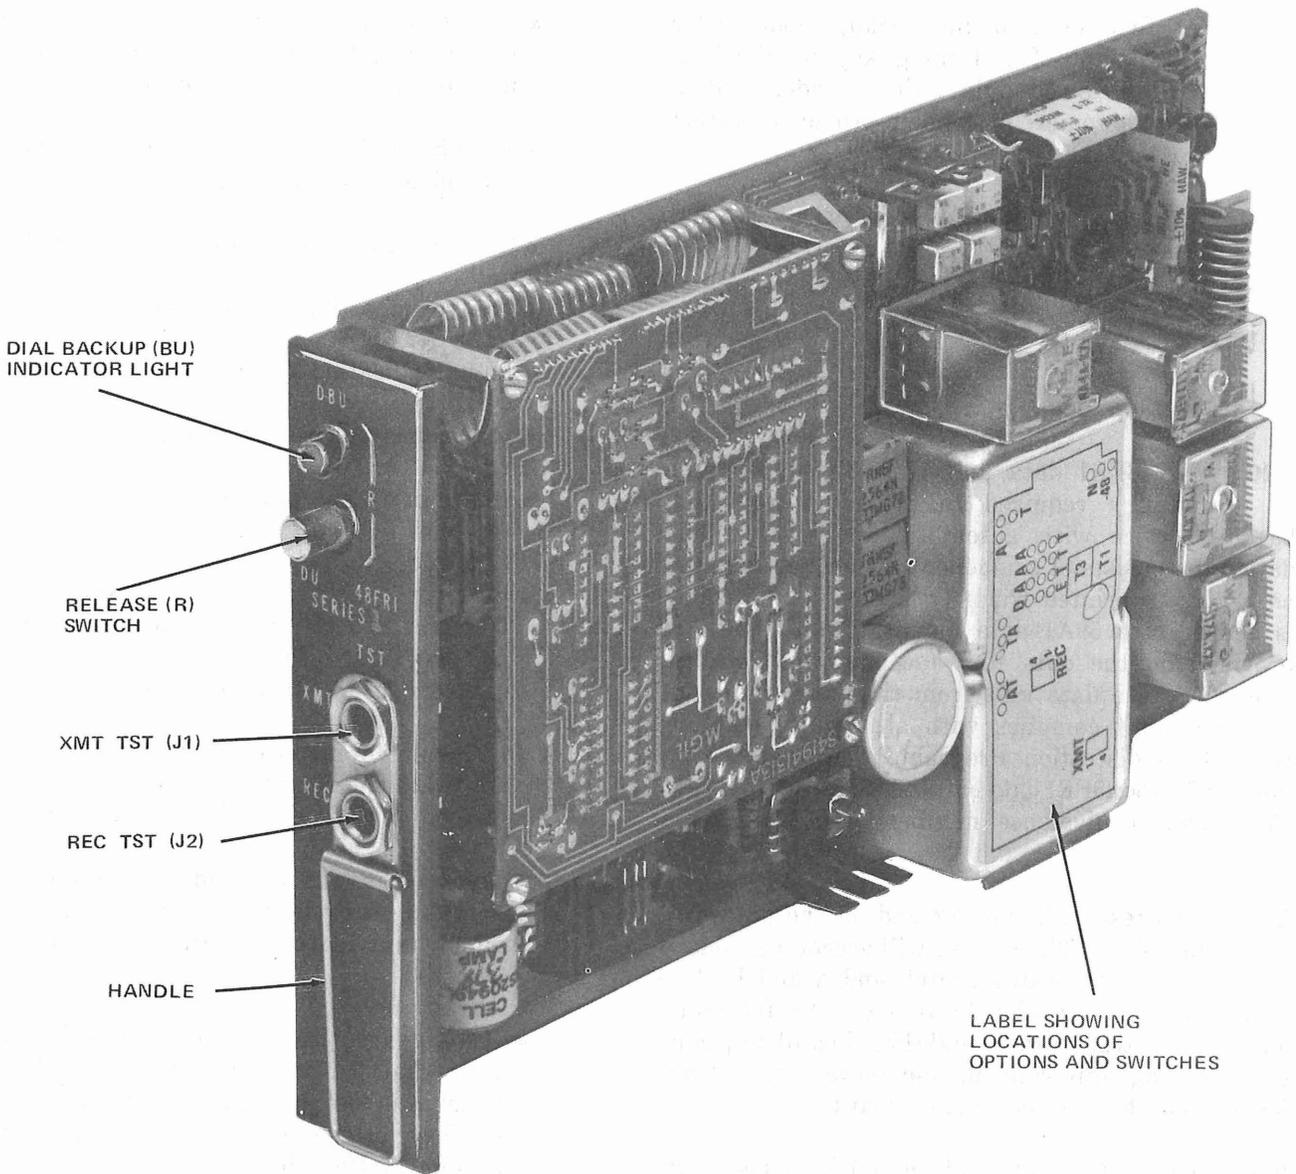

Fig. 6—48FR1 Data Unit
**2.20** The 48FR1 data unit (Fig. 6) contains the circuitry required to provide 4-wire dial backup service with automatic answering. The data unit consists of component apparatus mounted on a plug-in printed wiring board. The data unit is housed in a 59A1 data mounting. A handle is provided on the data unit faceplate to facilitate removal of the data unit from the data mounting. The data unit complies with all requirements of the FCC Registration Program. The registration number for the 48FR1 data unit is AS593M-67757-PC-E. The ringer equivalence number for each line is 0.5A.